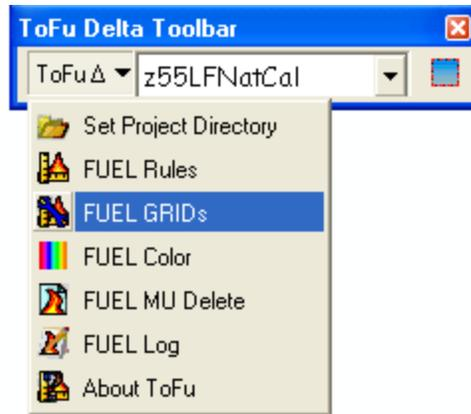

Figure 6-18. Select **FUEL GRIDS** on the drop-down menu.
- When the rules have been completed to your satisfaction as described above, select **FUEL GRIDS** on the ToFuΔ drop-down menu (fig. 6-18).